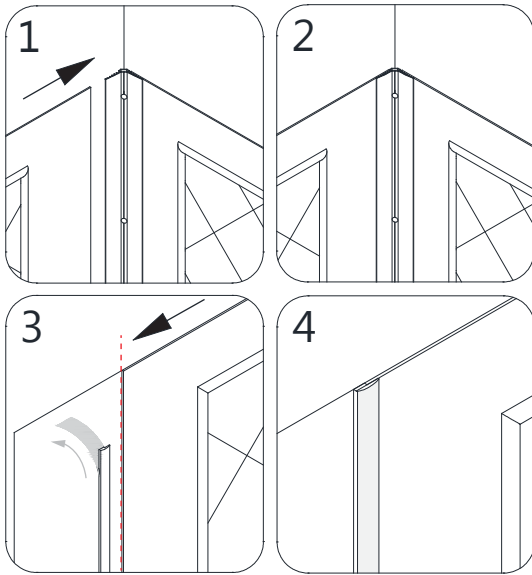
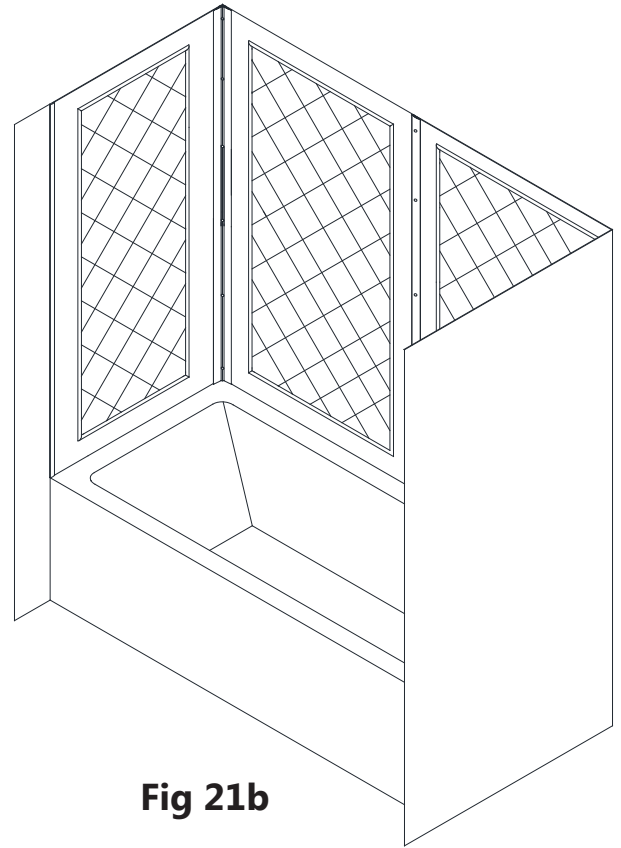

Fig 21a
Fig 21b
21. Repeat Step#18 to install the second **Side Panel (#01)**, tucking the **Side Panel (#01)** behind the corner cover and fully tightening the screws. (**Fig 21a** and **Fig 21b**)